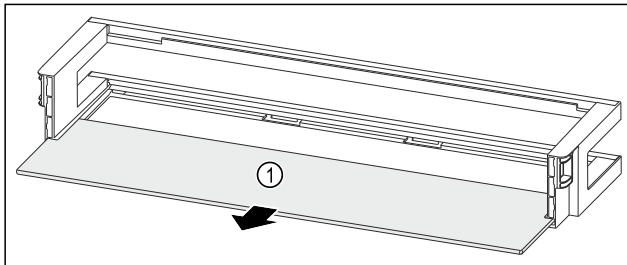

Fig. 83 Door racks with shelf
- Remove the shelf Fig. 83 (1).